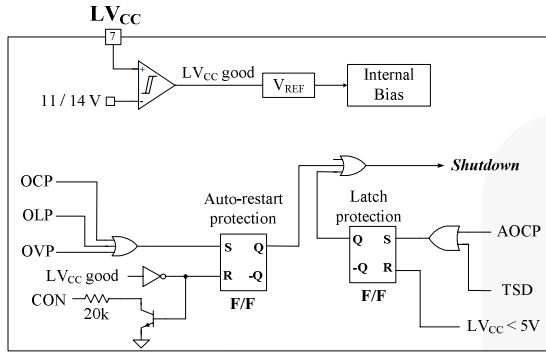

Figure 24. Protection Blocks
**5. Protection Circuits:** The FSFR-series has several self-protective functions, such as Overload Protection (OLP), Over-Current Protection (OCP), Abnormal Over-Current Protection (AOCP), Over-Voltage Protection (OVP), and Thermal Shutdown (TSD). OLP, OCP, and OVP are auto-restart mode protections; while AOCP and TSD are latch-mode protections, as shown in Figure 24.